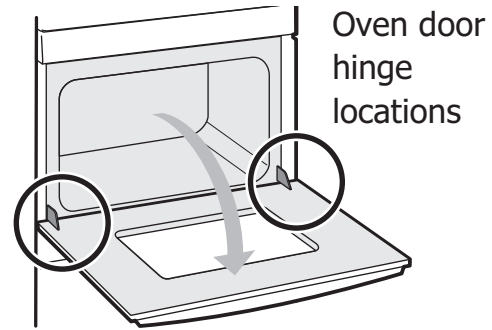
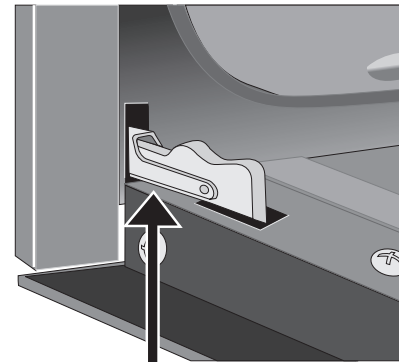

Figure 12: Door hinge location
Figure 13: Door hinge locked
2. Pull up the lock located on each hinge support toward front of the oven until the lock stops. You may have to apply a little upward pressure on the lock to pull it up (Figure 12 and Figure 13).
4. Push the door hinge locks up toward and into the oven frame on both left and right oven door hinges to the locked position (Figure 12).